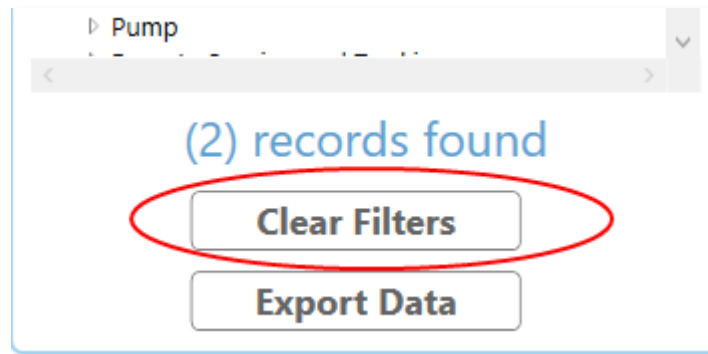

Figure 16- Clear Vessel Filter Data
- Click the **Clear Filters** button at the bottom of the Filter panel to remove all filters applied to the data (Figure 16).